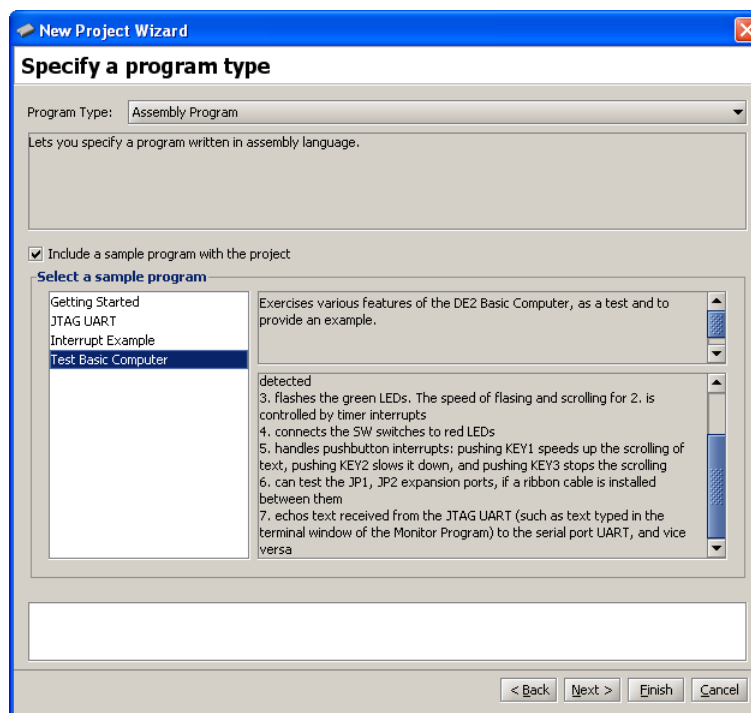
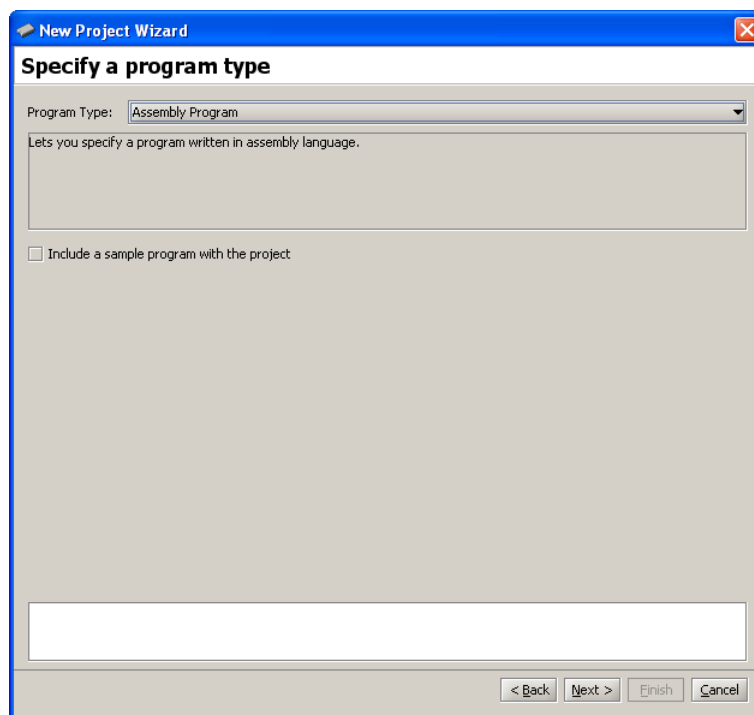

Figure 4: Selection of an application program.
Figure 11: Select the assembly language program.
4. In the window in Figure 4 you can specify the type of application programs that you wish to run. They can be written in either the Nios II assembly language or the C programming language. Specify that an assembly language program will be used. The Altera Monitor Program package contains several sample programs. Select the box **Include a sample program with the project**. Then, choose the **Test Basic Computer** program, as indicated in the figure, and click **Next**.
2. Use the Altera Monitor Program to create a new project in this directory; we have chosen the project name *part2*. When you reach the window in Figure 4 choose **Assembly Program** but do not select a sample program, as shown in Figure 11. Click **Next**.